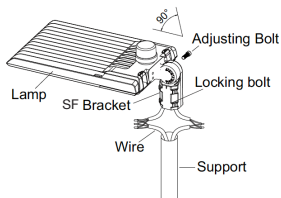

Fig. 11
2. Loosen the four bolts on the SF/MM bracket and connect the wires correctly. Pull the wires into the poles (Fig. 11).